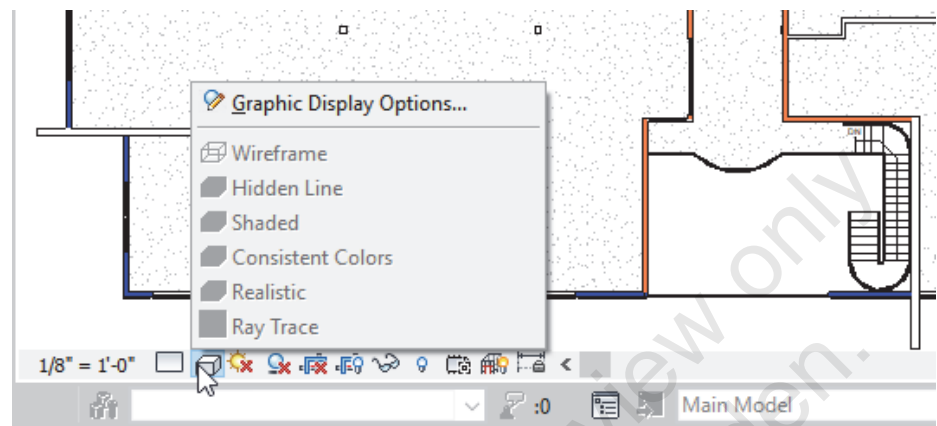

Figure 1–148
4. Review the View Control Bar options. Note that you can't make any changes to the view controls of this view, as shown in Figure 1–148.